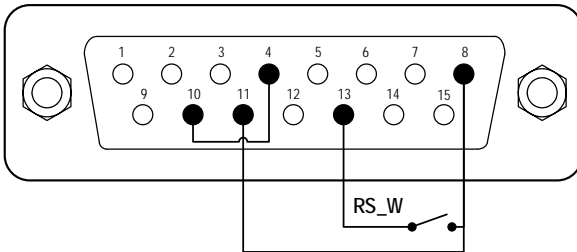
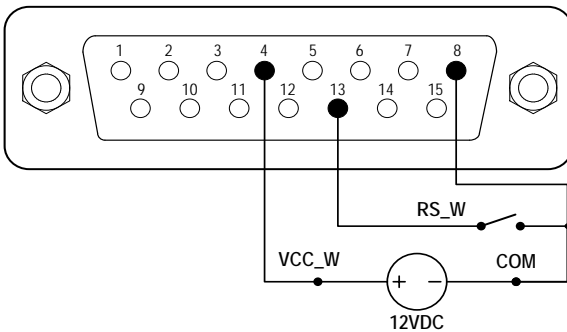

Figure 22. Logic Level 1 Control with Internal 12V Power Source
Figure 23. Logic Level 1 Control with External 12V Power Source
- 1) Switch the power off. Wire the DB15 connector as shown on Figure 22 or Figure 23, and connect it to the DB15 port on the rear of the pump.